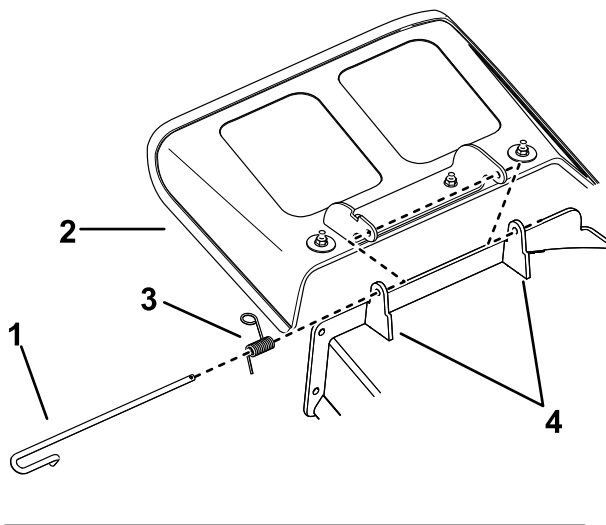

Figure 68
1. Disengage the spring from the notch in the deflector bracket and slide the rod out of the welded deck brackets, spring, and discharge deflector (Figure 68).